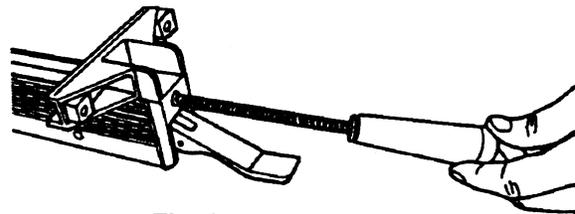

Fig. 2
Insert the handle into the fence base (15), as seen in Fig. 2.